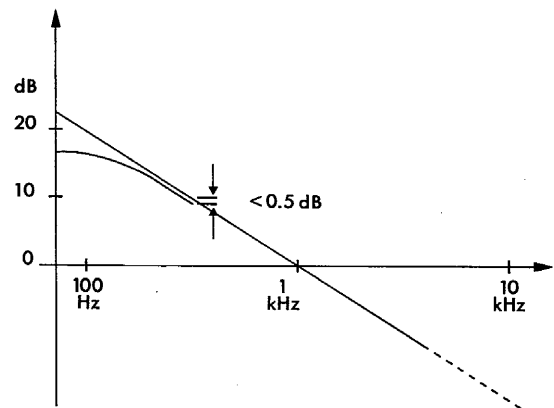

Fig. B1. Frequency response of the 6 dB/oct. filter.
6dB/oct. (ref. 1 kHz). For frequency response of filter, see Fig. B1.